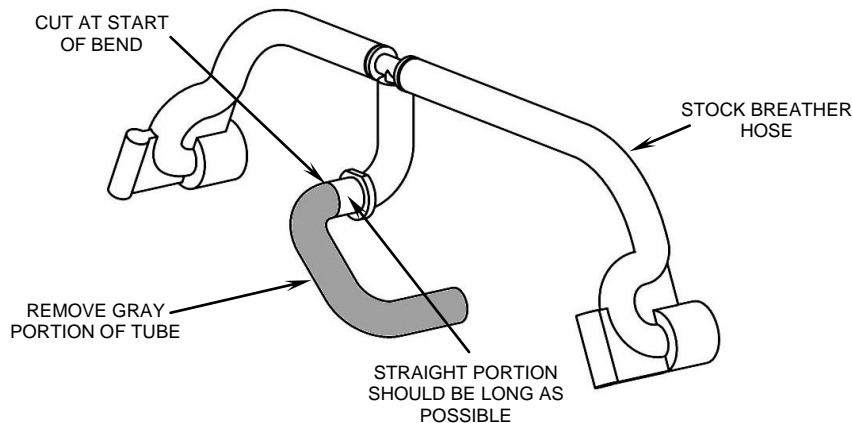

FIGURE 1
1. Remove the stock air cleaner cover. Remove the (3) bolts securing the filter to the throttle body and remove the filter and breather hose assembly. Save the stock breather hose assembly as this will be reused. Remove the two breather bolts from the cylinders and remove the back cover.
2. Cut off the end of the center breather hose as shown in **FIGURE 1**. Cut the tube near the start of the bend so that the straight portion is as long as possible.